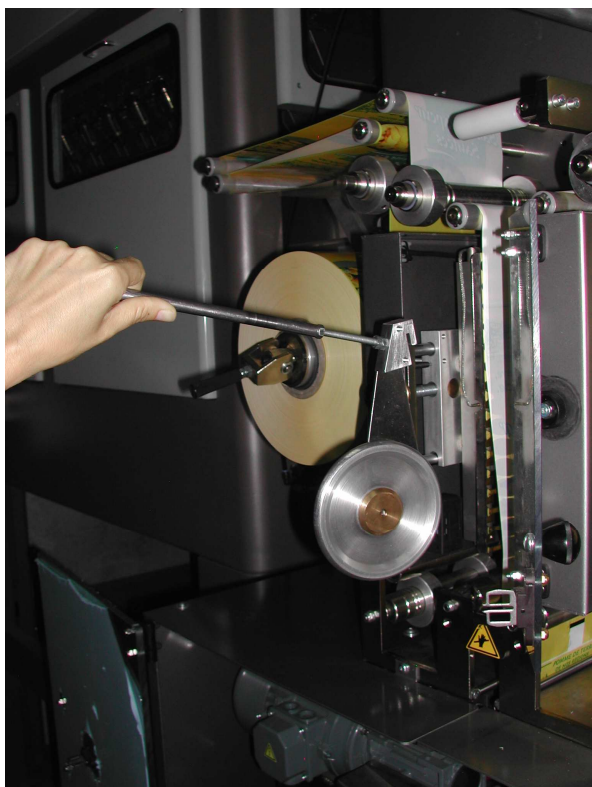

Fig 13.14
- Correctly place the mesh guide rods located below the ULTRABAG spreader. They have two positions, closed and open when using 145 mm film. See Fig. 13.14